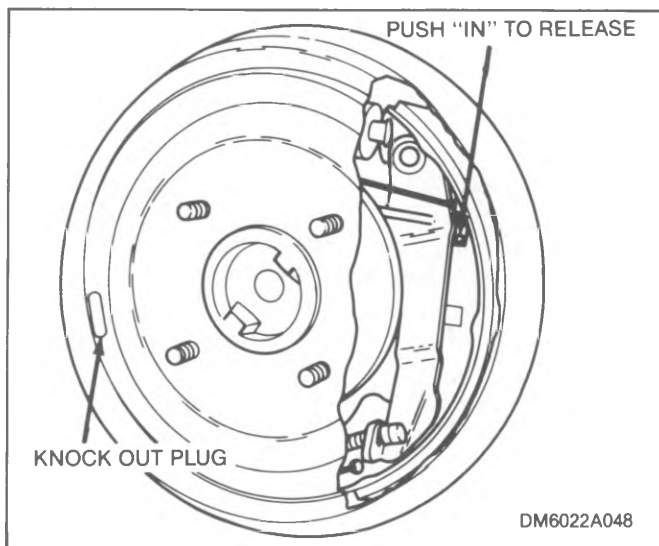

Figure 4-2. Retracting Brake Shoes 1975 and Prior
1. Knock out the lanced area in the web of the brake drum using a chisel or similar tool (see figure 4-2).
2. Release the rod assembly from the trailing shoe by pushing in on the rod until it is clear of the shoe (see figure 4-2). The pull back spring will then pull the shoes toward each other and the drum may be removed.